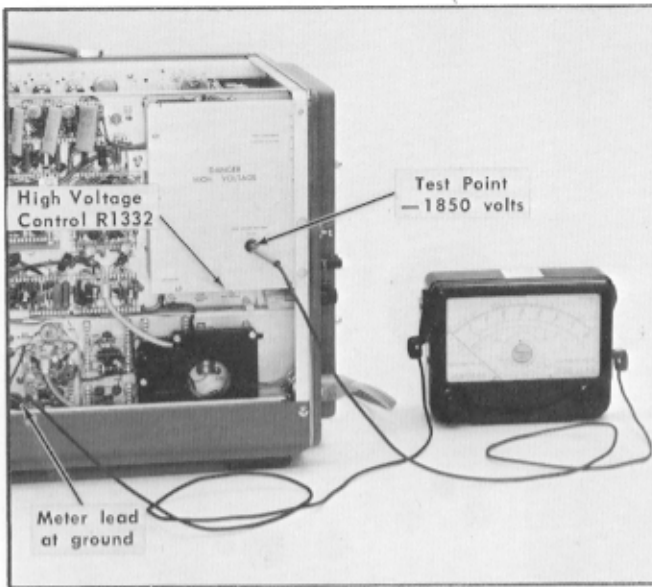

Fig. 6-10. Test setup for adjusting high voltage—Lower Beam.
a. Set the DC voltmeter (item 9 of Recommended Equipment) to the high voltage range.
b. Connect the meter leads from the high voltage test point to chassis ground, as shown in Fig. 6-10.
d. Adjust High Voltage control R1332 for a meter reading of —1850 volts. Fig. 6-10 shows the control location.